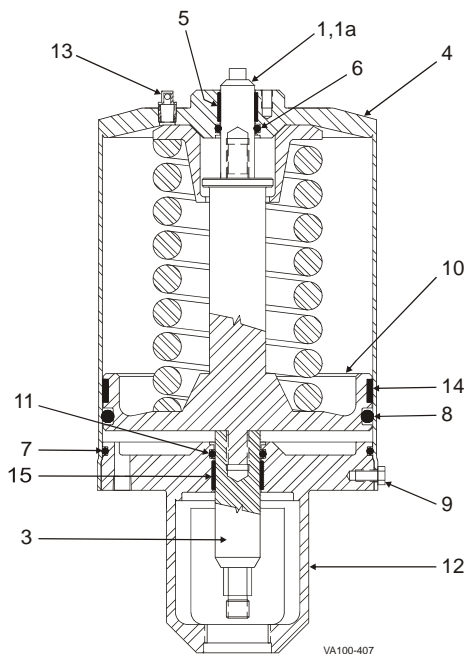

Figure 32 : 6" Actuator
1. Inspect the piston o-ring seal (Figure 32, item 8).
2. Remove the worn o-ring seal. Do not score or nick grooves in the piston (item 10).
5. Inspect and replace the PTFE guide bearing (item 14) on the piston as needed.
7. Place the cylinder over the yoke, and install cap screws (item 9) to secure it.